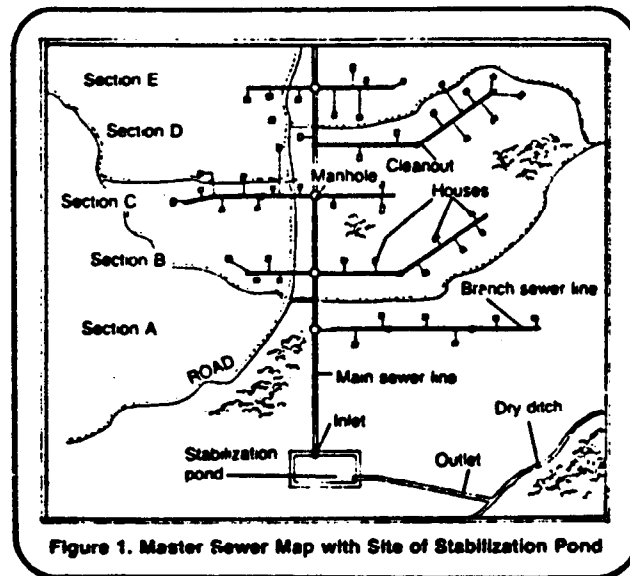

Figure 1. Master Sewer Map with Site of Stabilization Pond
(1) a master sewer system map similar to Figure 1 showing the entire sewer network; (2) detailed section maps similar to Figure 2 and profile drawings of all portions of the sewer system.